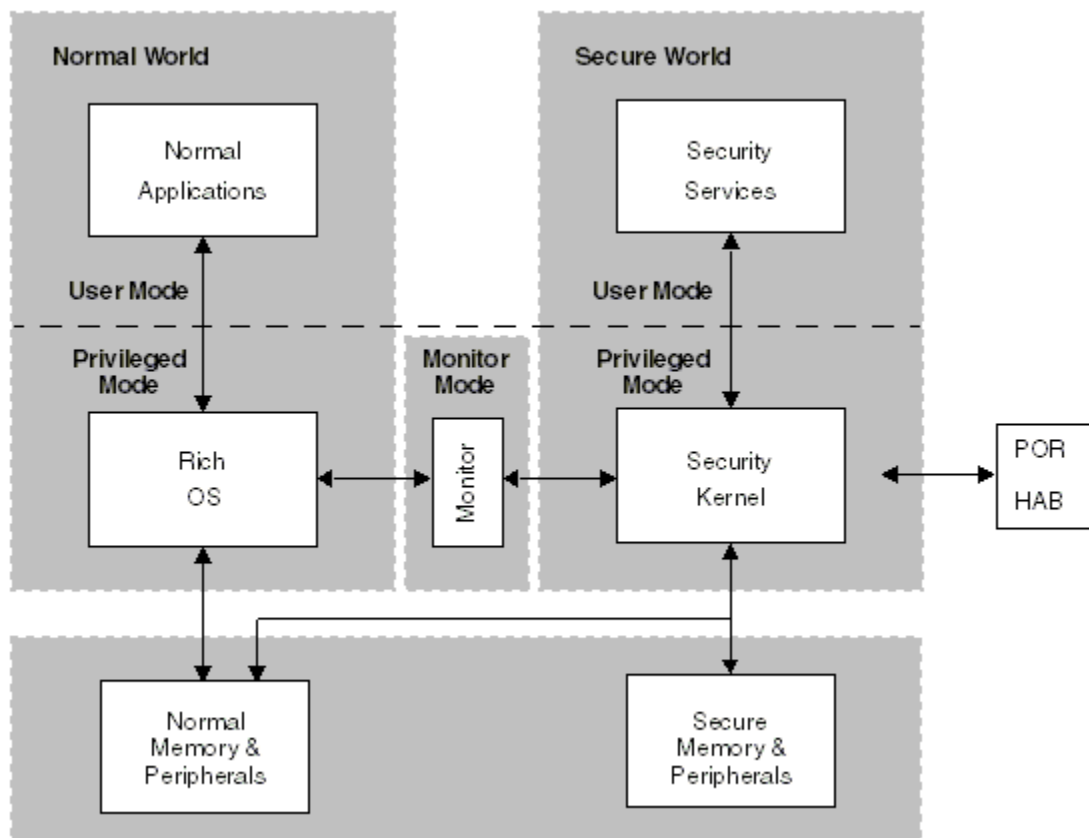

Figure 1-2. TrustZone security extensions
- TrustZone security extensions in the ARM core (see Figure 1-2) duplicate the user, supervisor and other privileged modes of the processor in a Secure World and a Normal World. Security services execute in Secure World under the control of a security kernel, while normal services and applications run in Normal World with a rich operating system. TrustZone also provides a monitor mode, to which Normal World operating system traps when security services are required.